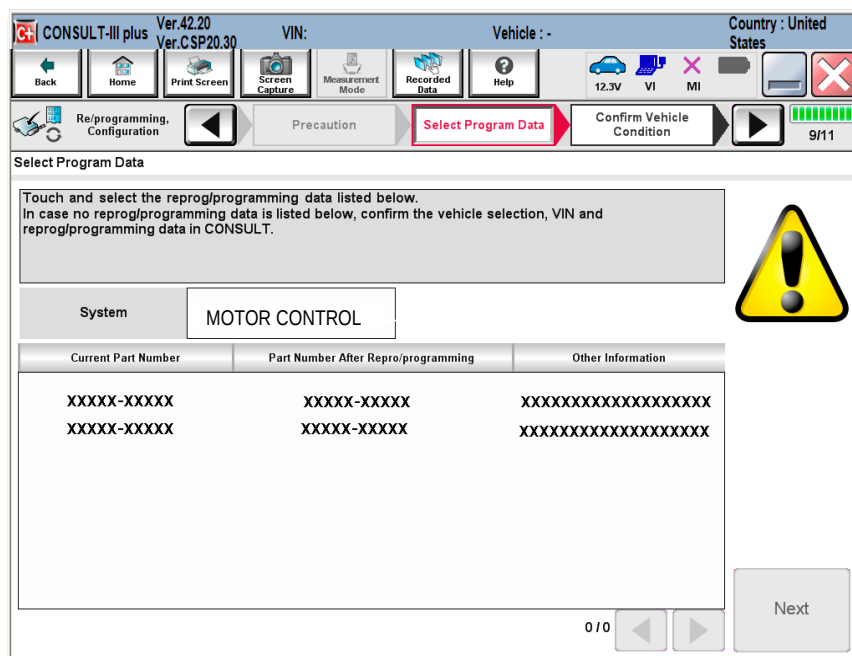

Figure 10
- If more than one P/N is available, the screen in Figure 10 will display. Select and use the reprogramming option that **does not** have the message "Caution! Use ONLY with NTBXX-XXX".